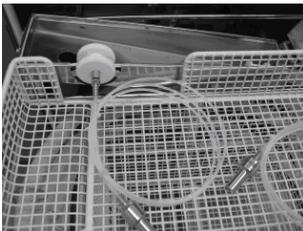

Figure 1:
4. Insert the small PP-adapter into the slot on the side of the pressure box so that the PCD can be placed in the load carrier as shown in figure 1.